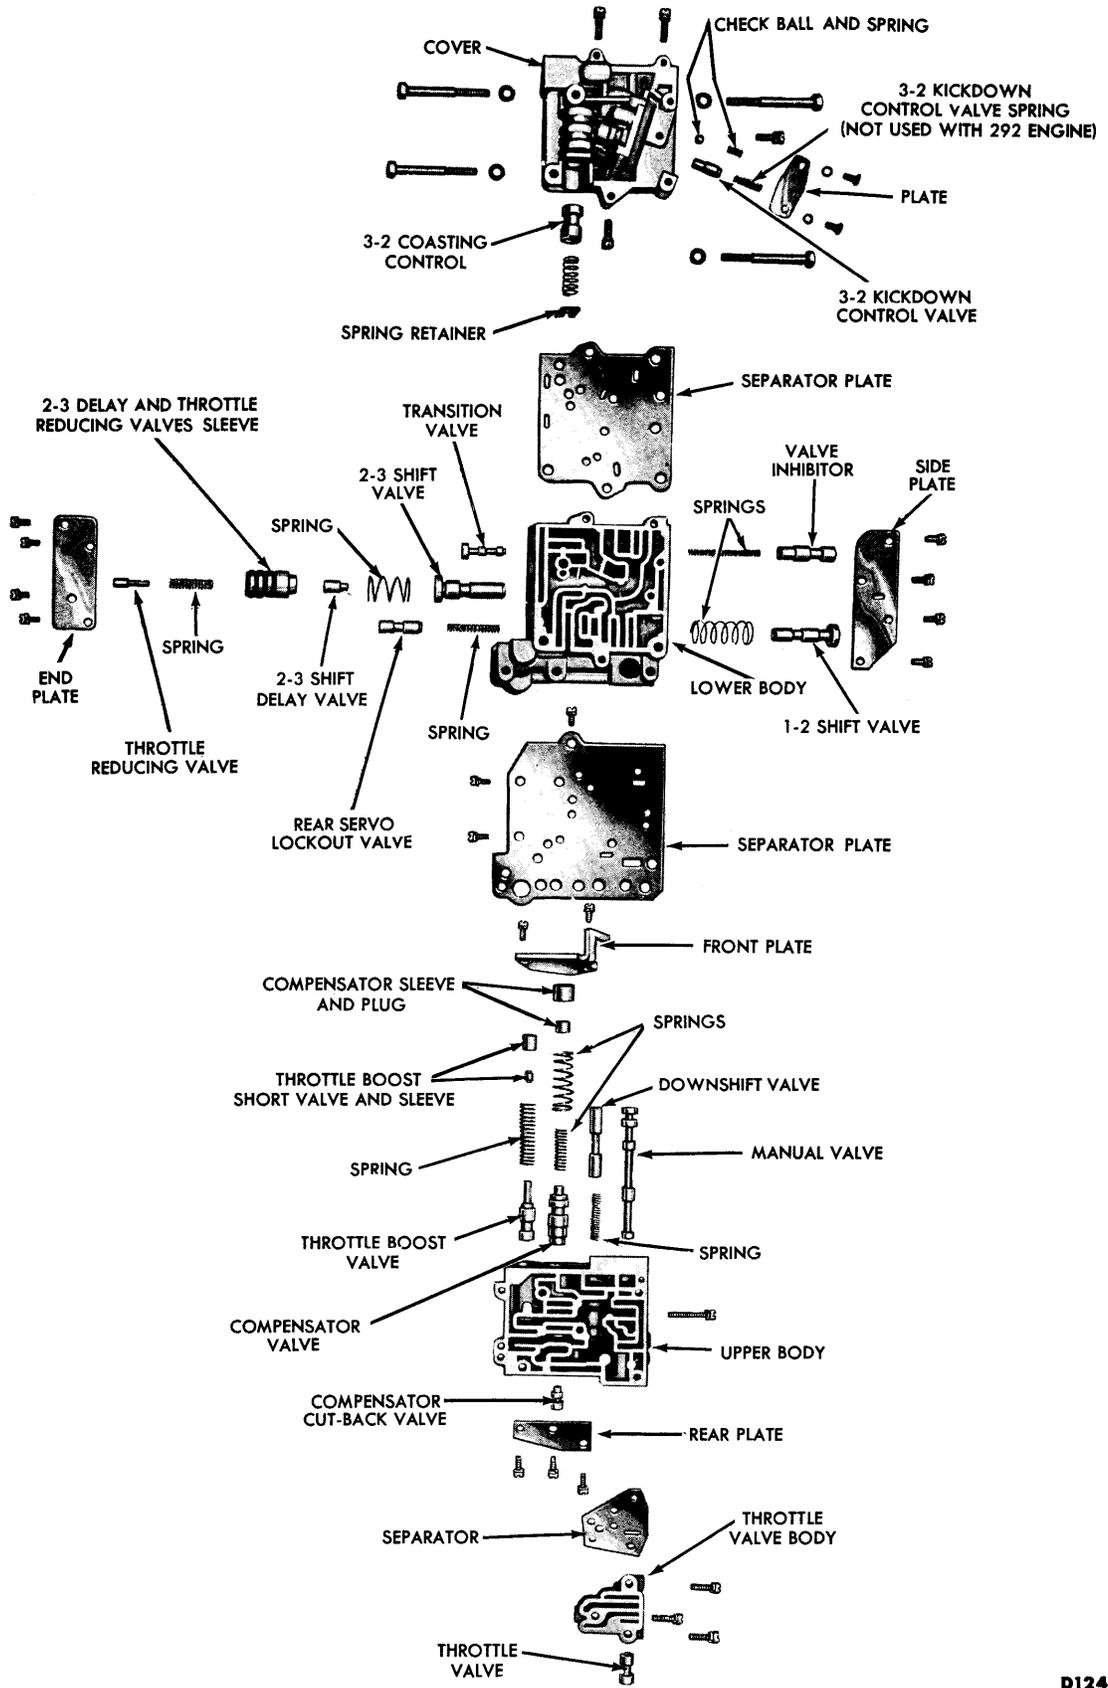

FIG. 21—Control Valve Body
1. Remove the manual valve (Fig. 21).
9. Remove the lower body side plate (Fig. 21). **The plate is spring loaded. Apply pressure to the plate while removing the attaching screws.**
15. Remove the plate (Fig. 21) from the valve body cover.